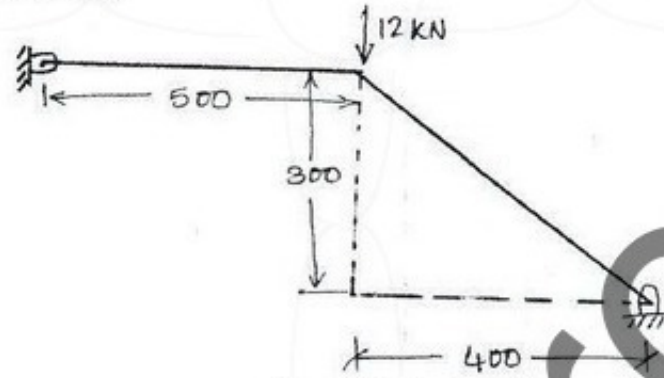

Fig. Q6 (b)
b. Find the nodal displacement, stress and reaction of truss element shown in Fig. Q6 (b). Take $E = 70 \text{ GPa}$, Area = 200 mm^2 . (12 Marks)